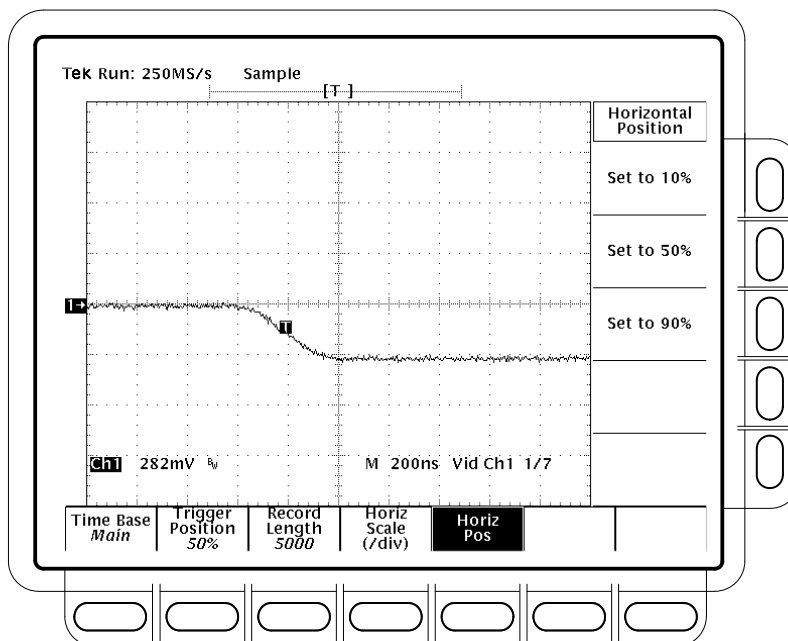

Figure 4-35: Line Count Accuracy Test Setup Waveform – TDS 684A Shown
- Use the **HORIZONTAL POSITION** knob to move the falling edge of the sync pulse to two divisions to the left of center screen. See Figure 4-35.